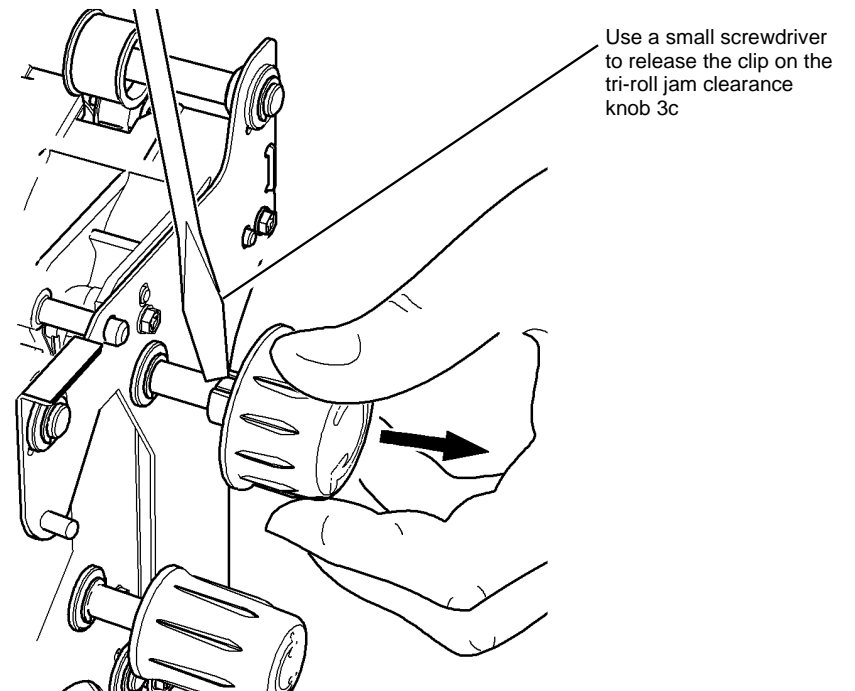

Figure 1 Tri-roll knob
2. Remove the tri-roll jam clearance knob 3c, Figure 1.